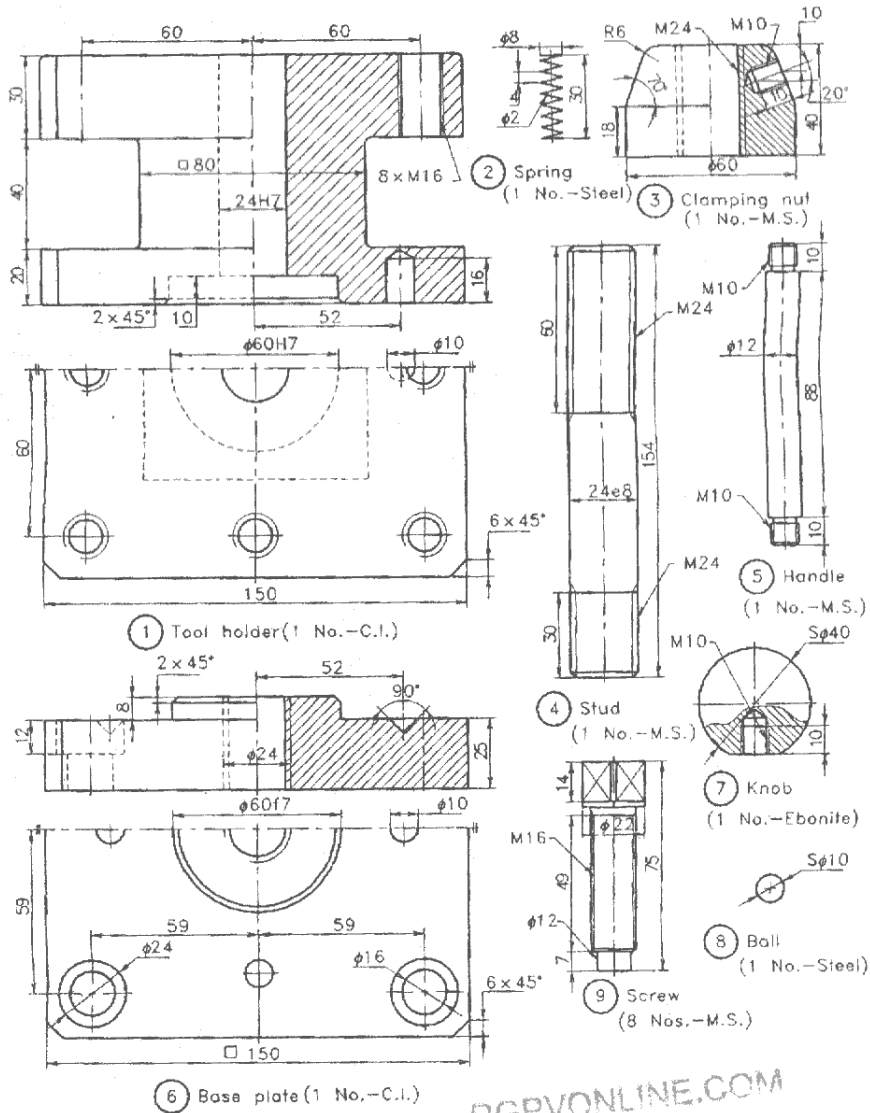

Fig.3
4. The parts of a Lathe tool post (multiple tool) are given in figure 3. Assemble the parts and draw